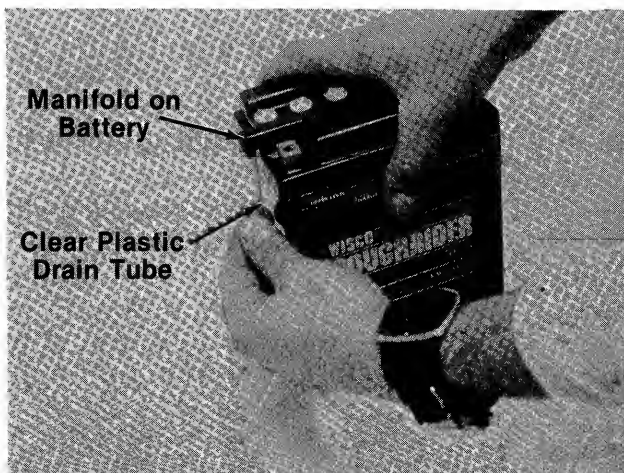

FIGURE 8.
3. Place one end of clear plastic drain tube on manifold of battery. See figure 8.